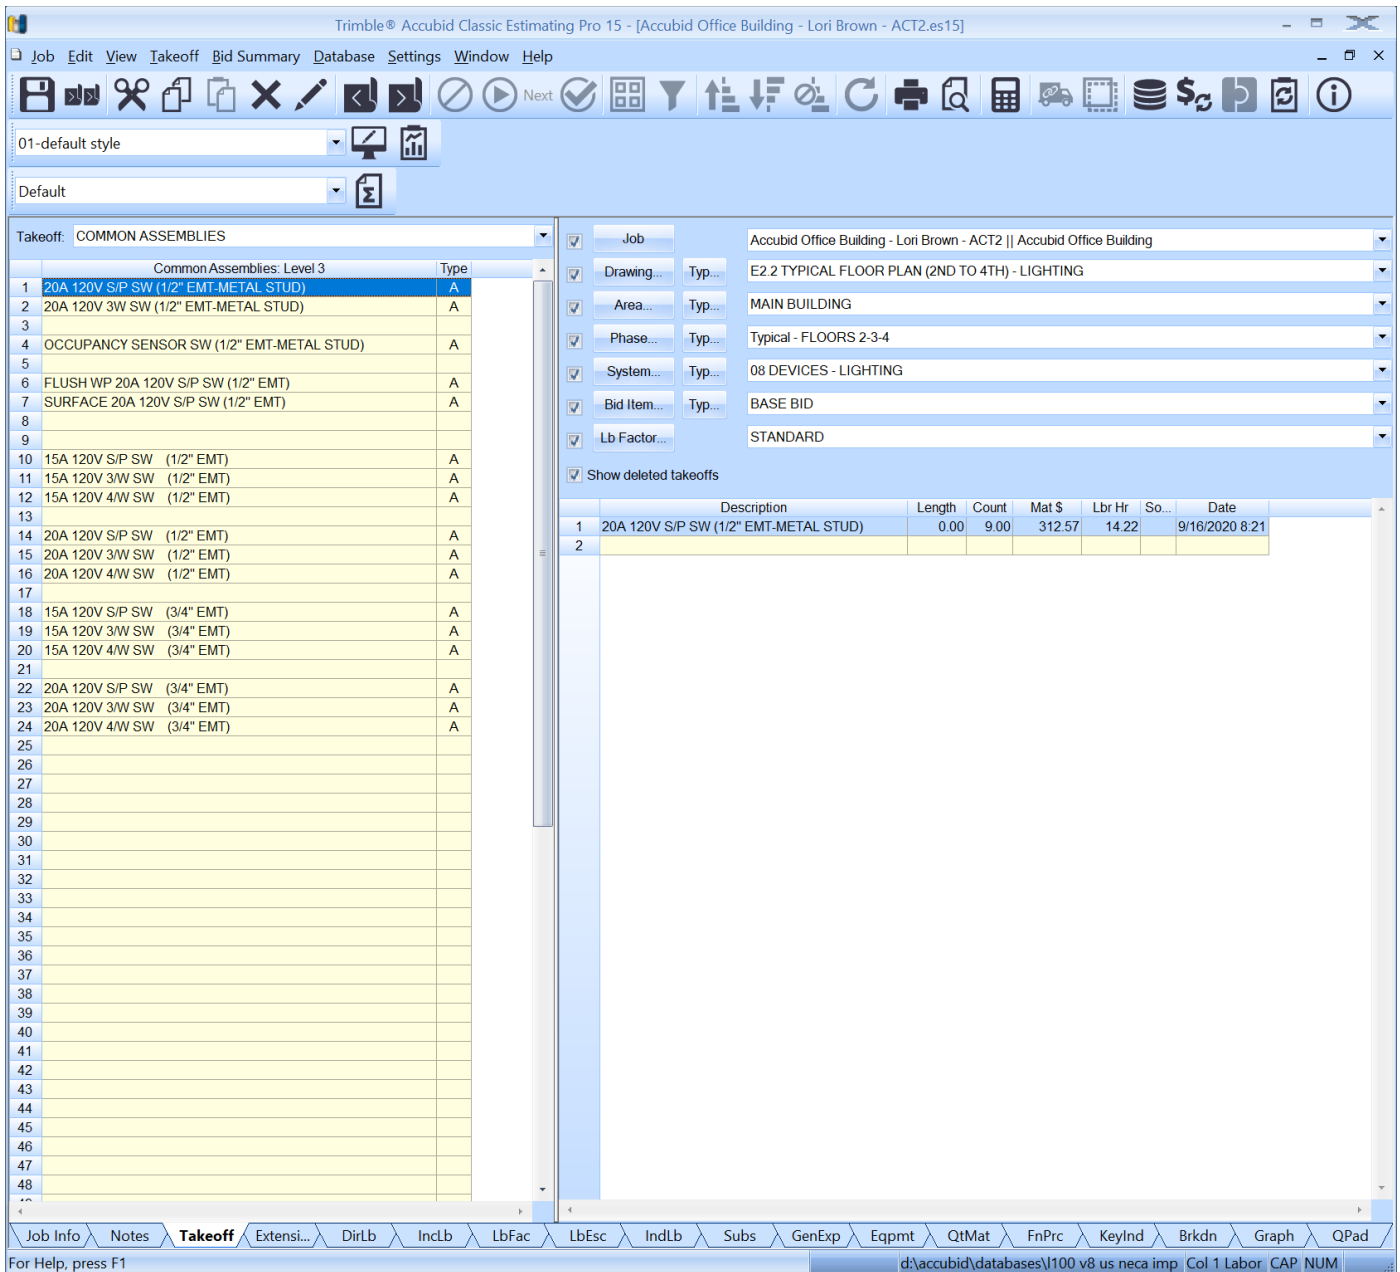

Figure 6
22. Using the Common Assemblies: Level 3 assemblies add the 20A Switches. Place a RED LINE through the number on your take off sheet as you add them to your estimate. See Figure 6